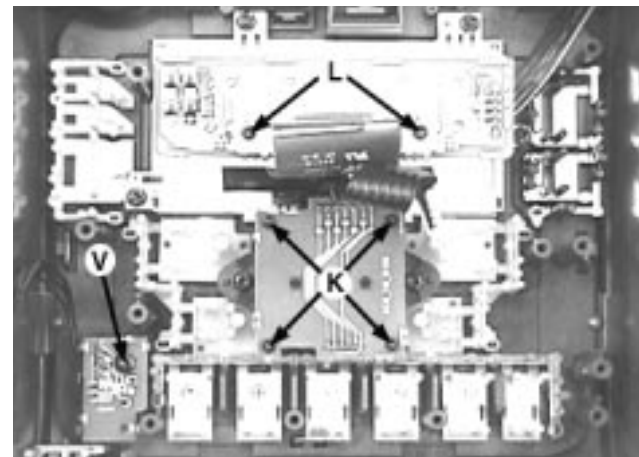

Figure 12
- 7) Loosen 4 screws K (see Figure 12) to remove the Shuttle Board (pos 1107-G).
- 8) Loosen 2 screws L (see Figure 12) to remove the LCD Interconnect Board (pos 1107-J).
- 9) Loosen 1 screws V (see Figure 12) to remove the Infra Receiver Board (pos 1107-E).